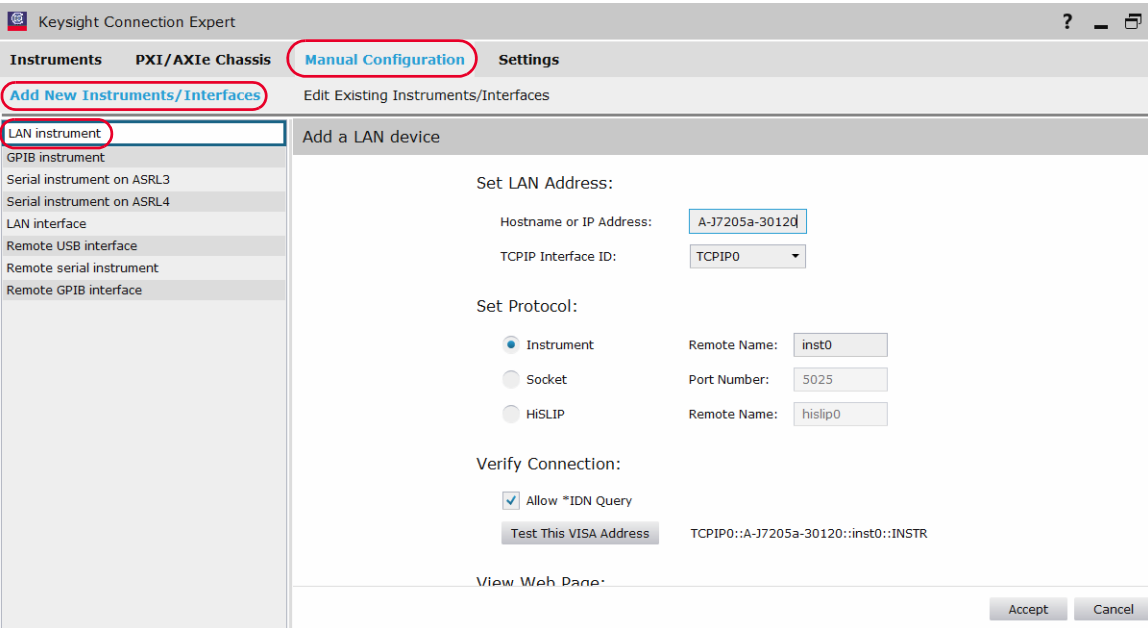

Figure 4-8 Add LAN instrument
- 3** To add an instrument, select **Manual Configuration**, and then **Add New Instrument/Interfaces**, and choose the **LAN instrument** from the list on the left as shown in **Figure 4-8** on page 50.